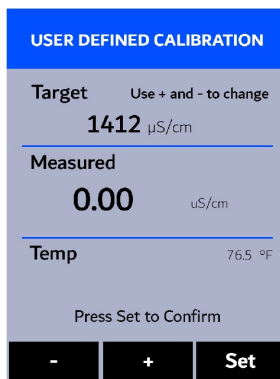

Figure 21.
5. Press ( **<** ) to launch the **USER DEFINED CALIBRATION** screen (Figure 21).